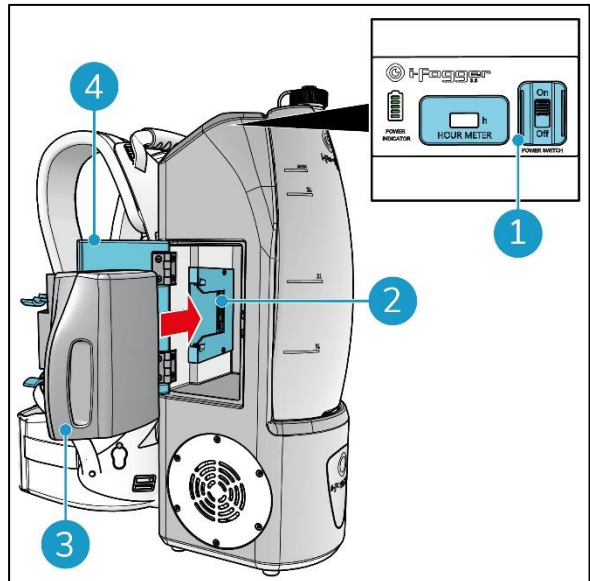

Figure 9
4. Open the hatch (Figure 9, pos 4) in the body of the i-fogger.
5. Ensure that the i-fogger is turned off. To do this check the ON/OFF switch on the i-fogger body (Figure 9, pos 1).
6. Insert the battery (Figure 9, pos 3) in the battery slot (Figure 9, pos 2), until you hear a "click". The battery is now fixated.